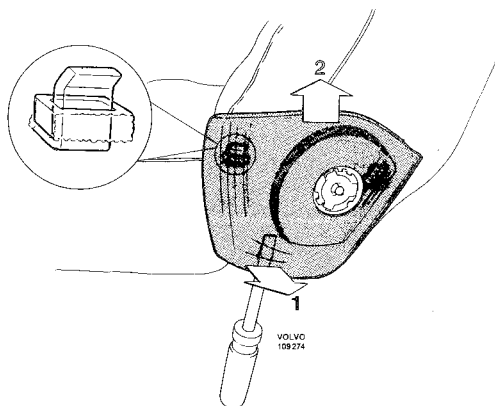

Fig. 8-56. Removing plastic cover
6. Remove the mechanism covers by bending loose the lower edge and then pressing upwards, see Fig. 8-56.